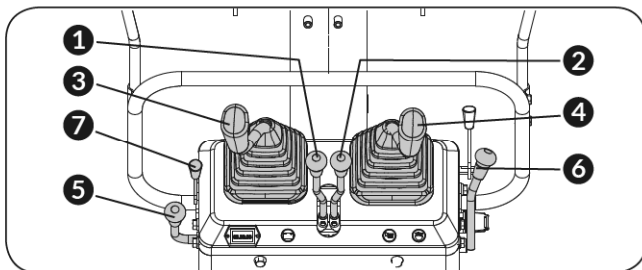

Figure 22
2. Before starting the engine, make sure that all control levers are in the neutral positions. (See **Figure 22**)